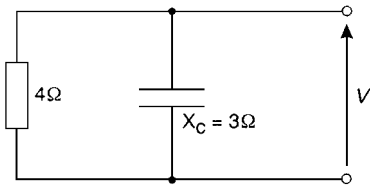

Figure 16.17
- 13 The magnitude of the impedance of the circuit shown in Fig. 16.17 is: